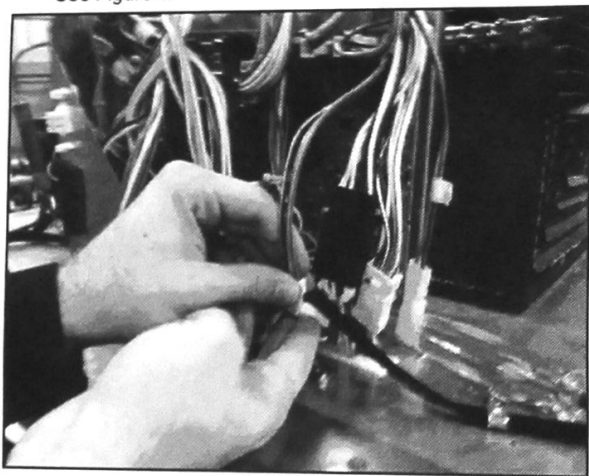

FIGURE 8
10. Disconnect refrigerator compartment connections by disconnecting the three connectors in the right grommet. See Figure 8.